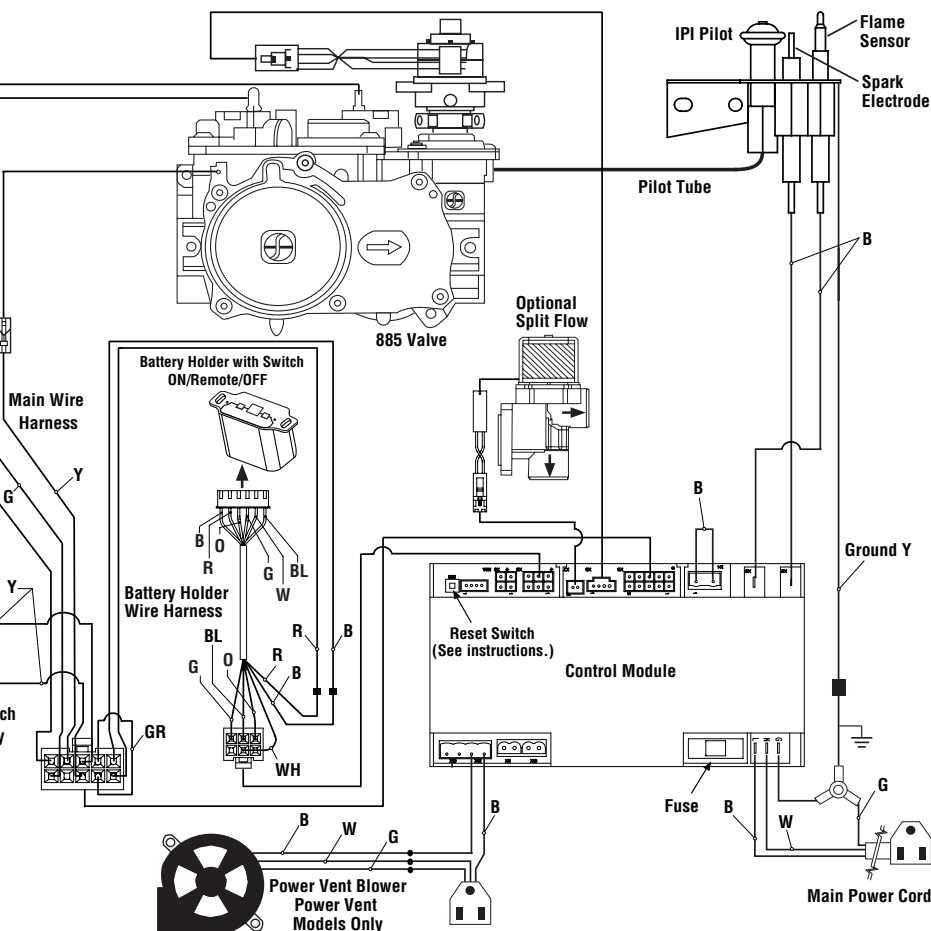

Figure 32
4. Connect the black power supply wire to the **power outlet's** red pigtail lead and the white power supply wire to the **common** terminal of the outlet as shown in *Figures 32 and 33*.